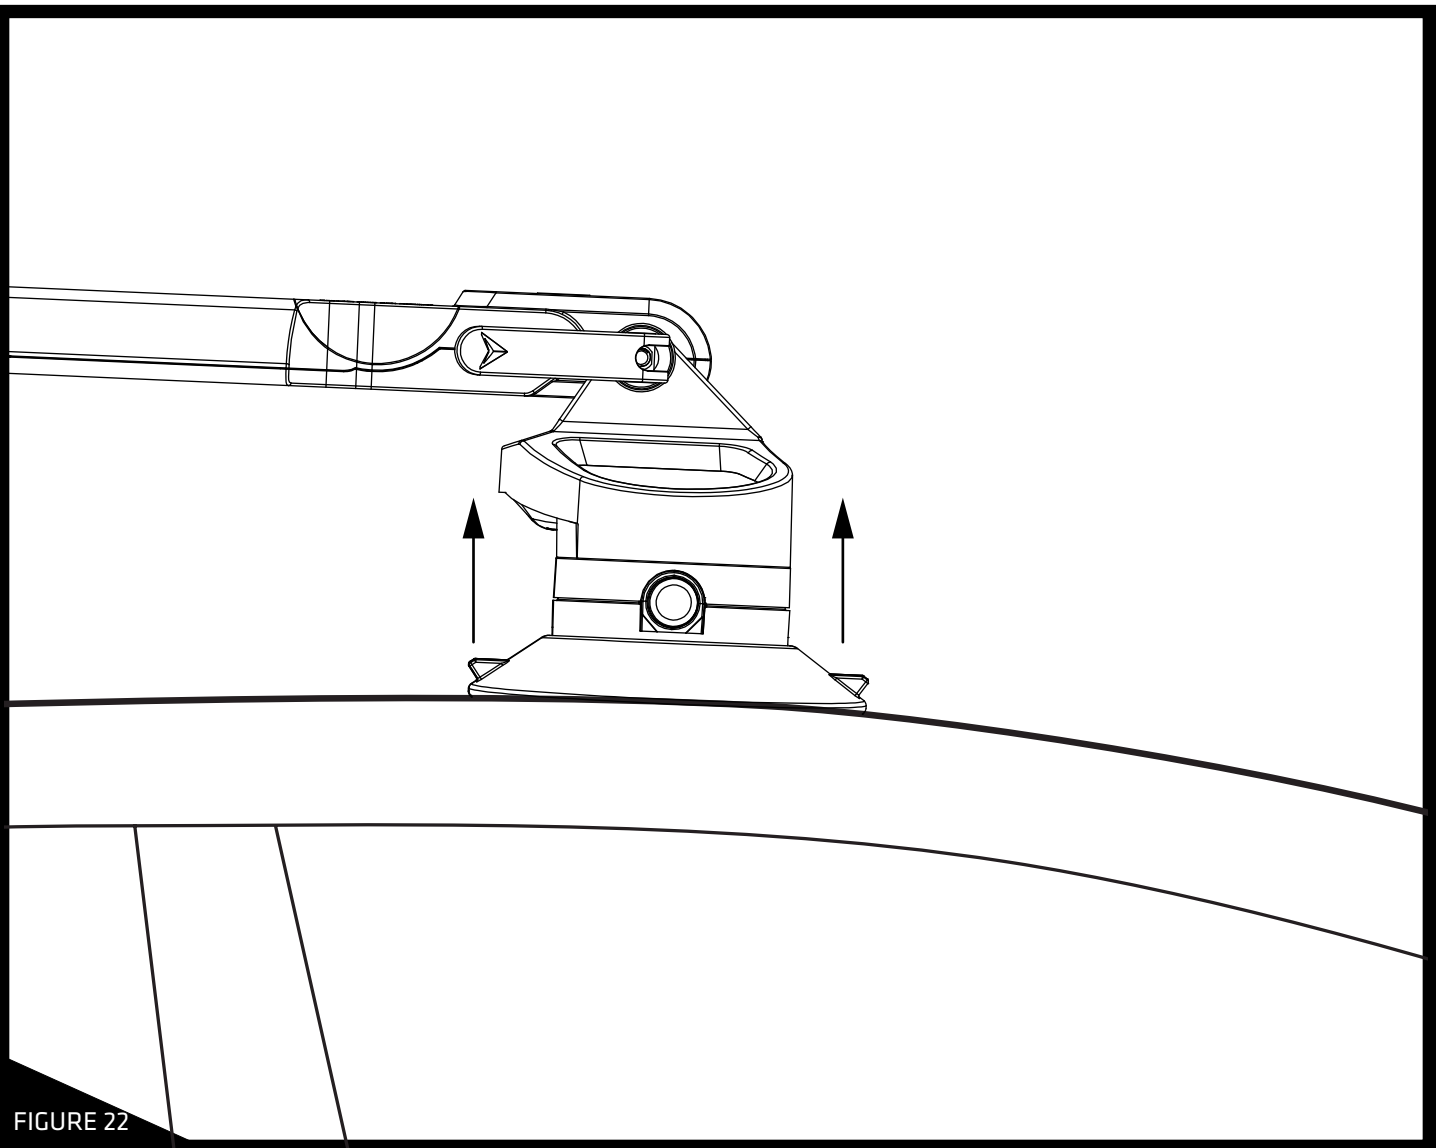

FIGURE 22
**STEP 8:** Remove the Smart Suction Bike Rack from the vehicle as shown in **Figure 22**. Locate the tabs on the outer sealing edge of each suction cup. Lift up on the tabs to release pressure and break the suction seal on each of the four suction cups. The rack is now free to remove from the vehicle. Replace the suction cup covers.